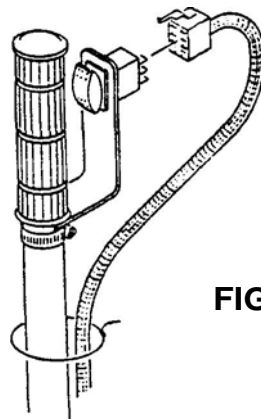

FIG. 18
- (4) Route the wire harness up the L.H. loader lift arm. Follow the auxiliary outlet tube lines.
- (5) Route the wire harness to the rear of the loader lift arm and down the L.H. upright of the loader frame.
- (6) Route the wire harness forward on the L.H. side of the skid steer.
- (7) Attach the connector on the wire harness to the switch mounted on the L.H. control lever. Secure the wire harness to the switch mount and the control lever with plastic tie straps. See FIG. 18